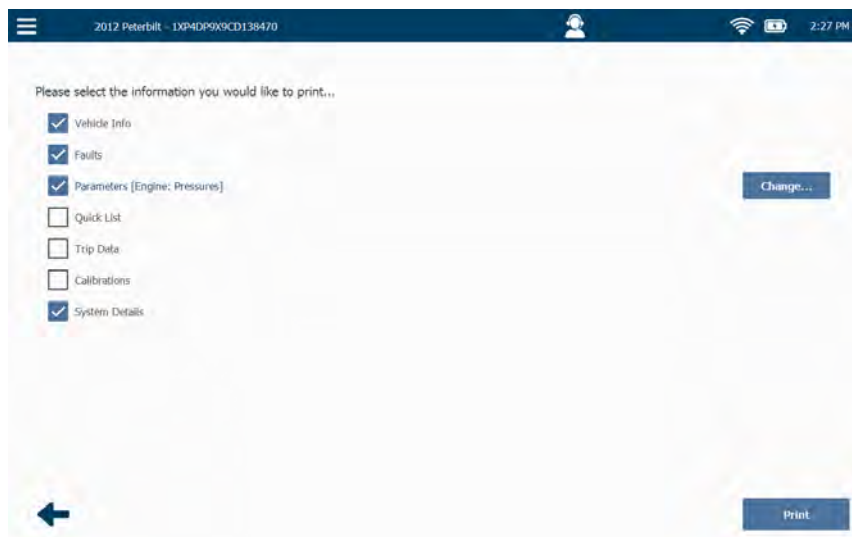

Figure 4.46 Information Selection Screen Updated
- 17 The **Information Selection** screen is displayed again (Figure 4.46).